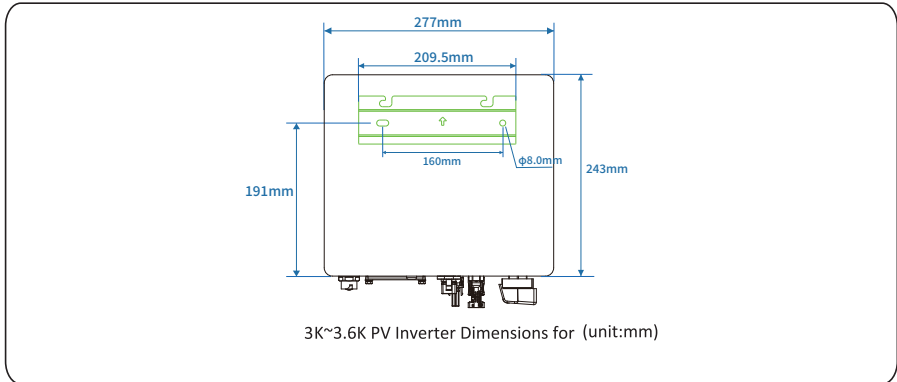

Figure 4.10 Determine the positions for drilling holes (unit: mm)
**Step 2** Determine the positions for drilling holes (as shown in Figure 4.10) using the **mounting bracket**.